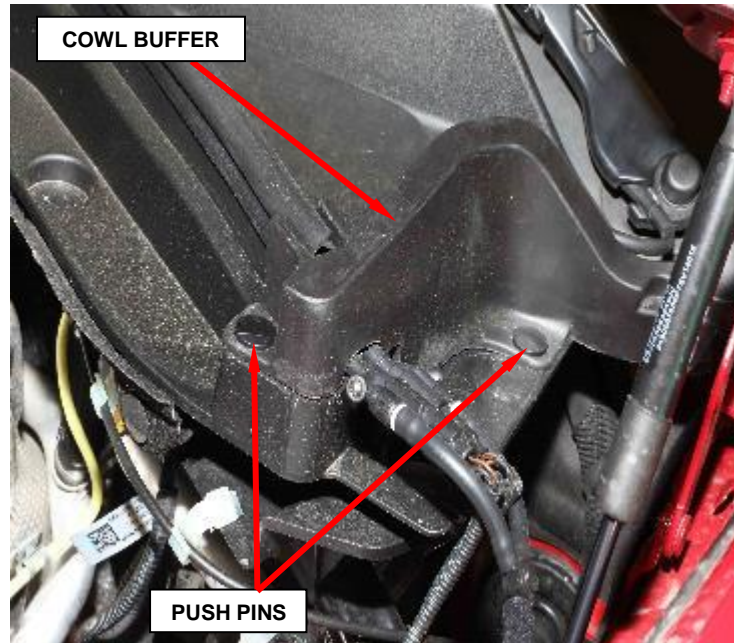

Figure 4 – Cowl Buffer
b. Use a trim stick to release the left cowl buffer push pins (Figure 4).
c. Remove the left buffer by releasing it from its seat (Figure 4).